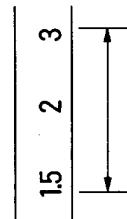

Fig. 7-11.
- 9) While holding the flange back adjusting pin ② to prevent further rotation, retighten the flange back setscrew ①.
- 10) With the zoom lever fixed at its WIDE end, turn the focusing ring and set it to the position that provides the optimum definition image of the wedge. Check to assure the focusing mark position is within the range shown in Fig. 7-11. Also, rotate the focusing ring to the close (1.1m) and far (∞) extremes and confirm that the wedge is no longer in focus.